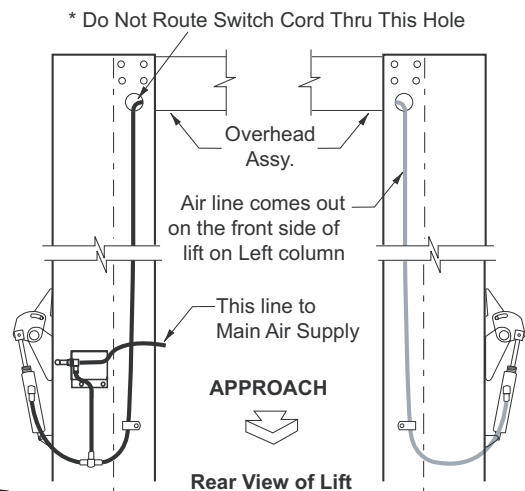

Fig. 14
NOTE: Route Power Unit hose inside columns using slots provided at column base, Fig. 9. Route Overhead Hose in column channel on outside of column, Fig. 9, Fig. 14. Overhead hose goes through holes beside sheaves in the overhead weldment, Fig. 7b, Fig. 9.
- K)** Install air line from union tee to left column air cylinder. Fig. 14.